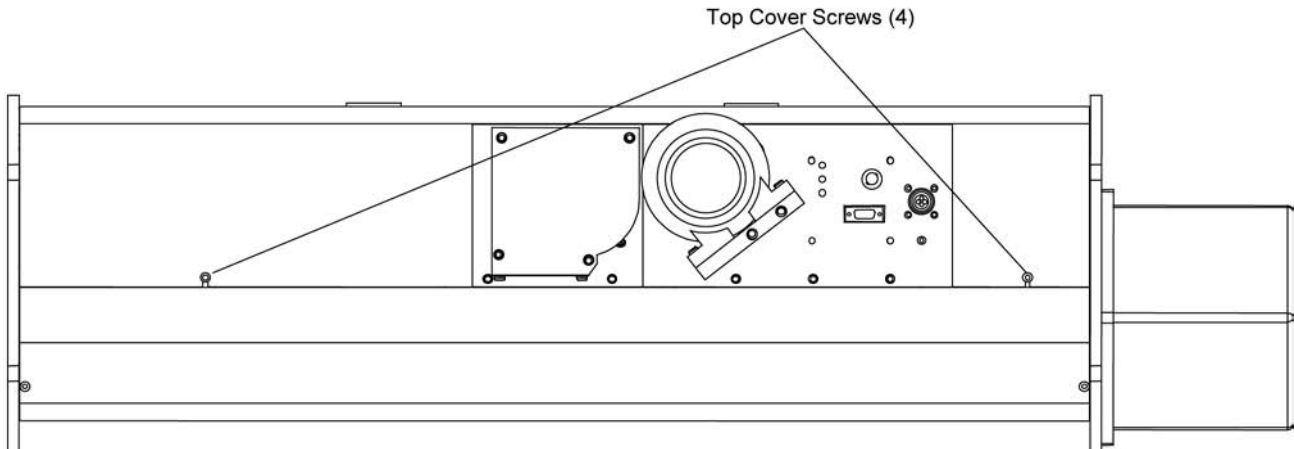

Figure 8-5
8. Loosen the four screws fastening the Nephelometer top cover and remove the cover (Figure 8-5).
2. Loosen the four screws fastening the Nephelometer top cover and remove the cover (Figure 8-5).